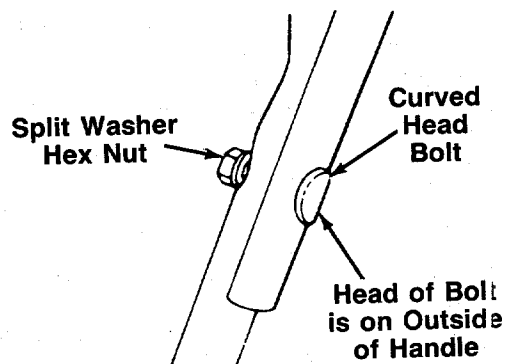

FIGURE 2.
2. Secure the upper handle using the curved head bolts, split washers and hex nuts as shown in figure 2.